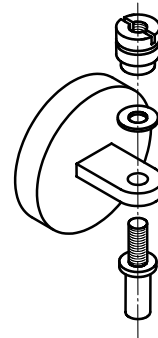

Fig. 2
- Remove the nut and the washer from the thread of the lug fixture, insert the lug of the measuring tool in the thread, then secure the lug with the washer and the nut (see Fig. 2).